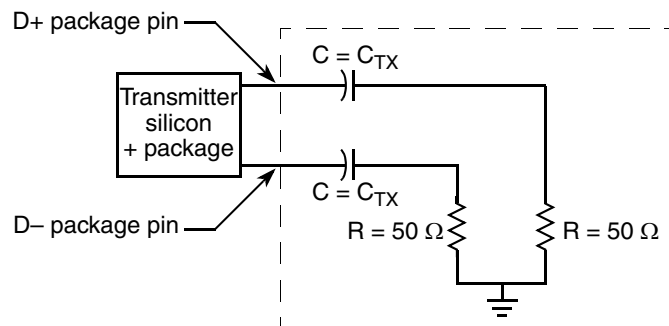

Figure 40. Test/Measurement Load
2. Specified at the measurement point into a timing and voltage test load as shown in Figure 40 and measured over any 250 consecutive Tx UIs.
2. Specified at the measurement point and measured over any 250 consecutive UIs. The test load in Figure 40 must be used as the Rx device when taking measurements. If the clocks to the Rx and Tx are not derived from the same reference clock, the Tx UI recovered from 3500 consecutive UI must be used as a reference for the eye diagram.